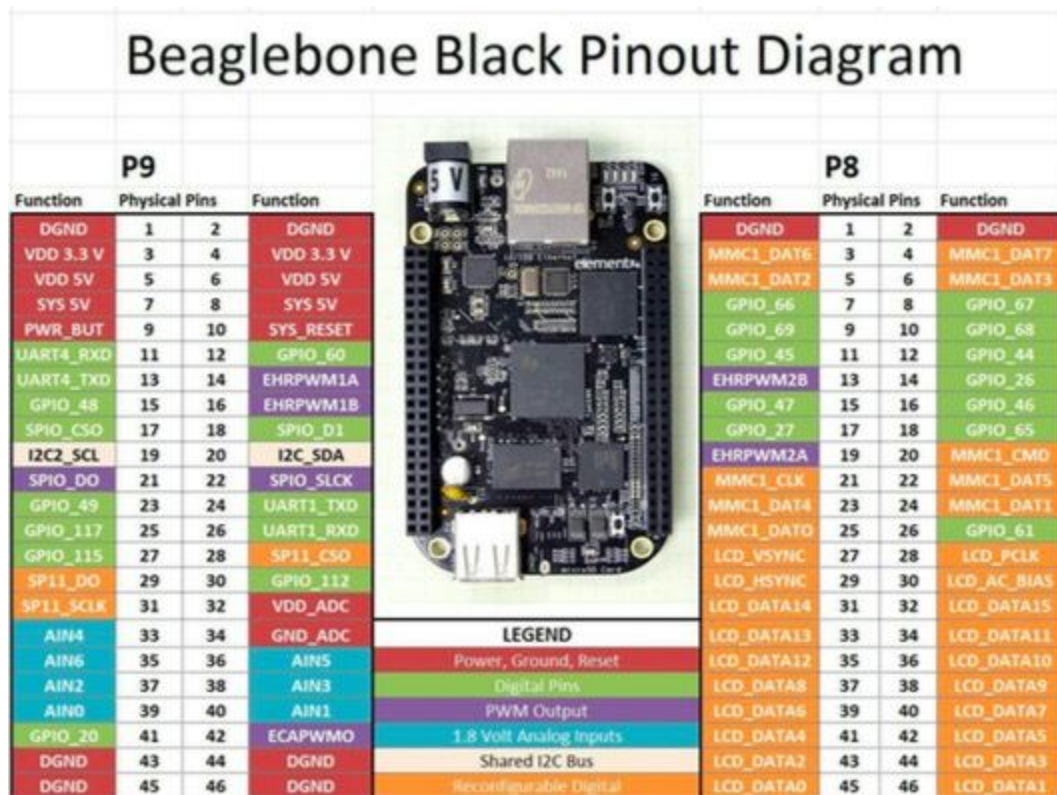

Figure 2: Beaglebone Black Pinout Diagram
- Before configuring the GPIOs, let's see how the GPIO numbering works. In schematics and documentations, you will see that all of the GPIO pins have the format GPIOx[y]. The letter x represents the bank, and the letter y represents which location in the bank that the GPIO pin is located. Usually, one bank will have 32 GPIO pins. So, the exact GPIO number would be $x*32 + y$. For example, GPIO1[31] can also be called GPIO63. However, for Beaglebone Black, all of the GPIO numbers are provided in **Figure 2**.